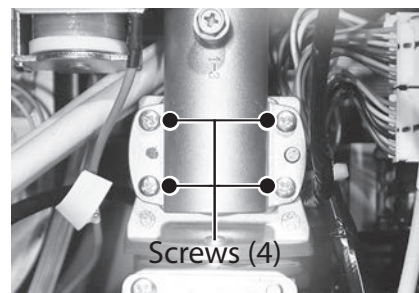

Figure 114 - Remove gas valve screws
- 13 Locate and remove the four screws securing the gas valve to the gas manifold. Place screws aside in a safe place for reinstallation. See Figure 114.
- 18 Locate the four screws previously removed in **Step 13** and secure the gas manifold to the gas valve. Figure 114.